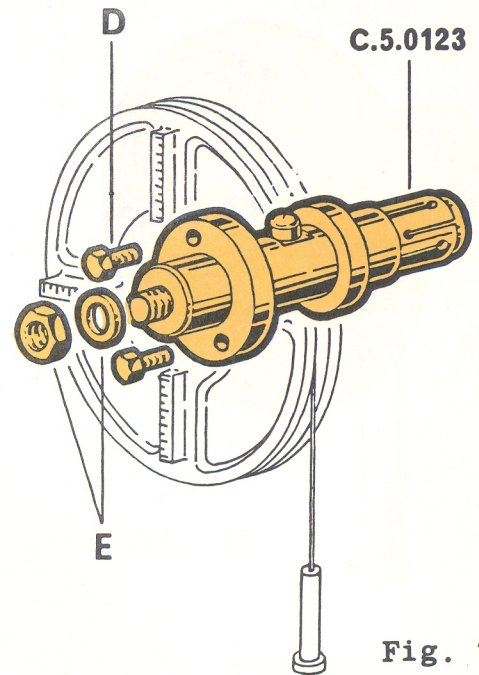

Fig. 7
On the Alfetta model, fit the above said tool to the spindle C.5.0123 and secure it with the two screws "D" as shown in figure 7.
- 7 Insert the spindle into the splined bore in the differential carrier and secure it in place with washer and nut "E". See fig. 7.